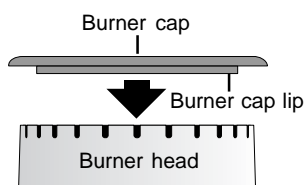

Fig. 7
- Replace all **round** burner caps on round burner heads. Be sure the burner cap bottom lip (Fig. 7) fits snug into the center of burner head and is level. Refer to Figs. 8 & 9 for correct and incorrect burner cap placement. You may check the fit by gently sliding the burner cap from side to side (Fig. 10) to be sure it is centered and firmly seated. When the burner cap lip makes contact inside the center of the burner head you will be able to hear the burner cap click against the burner head.